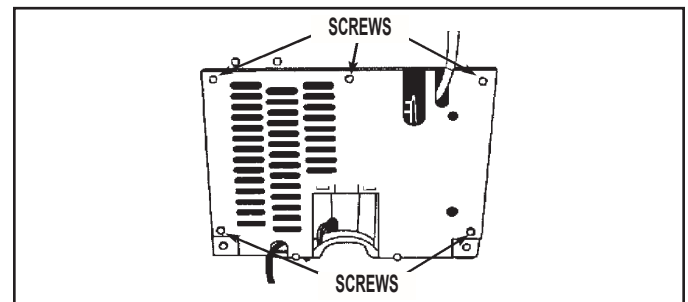

FIGURE 3
1. Remove rear panel. See *Figure 3* for five (5) screw locations. Pull old rear panel away from drain tube and discard panel and save screws. For models with cardboard rear panel, discard the old panel and utilize the new panel provided. For models with plastic rear panel, save the plastic rear panel and discard the new cardboard rear panels provided.